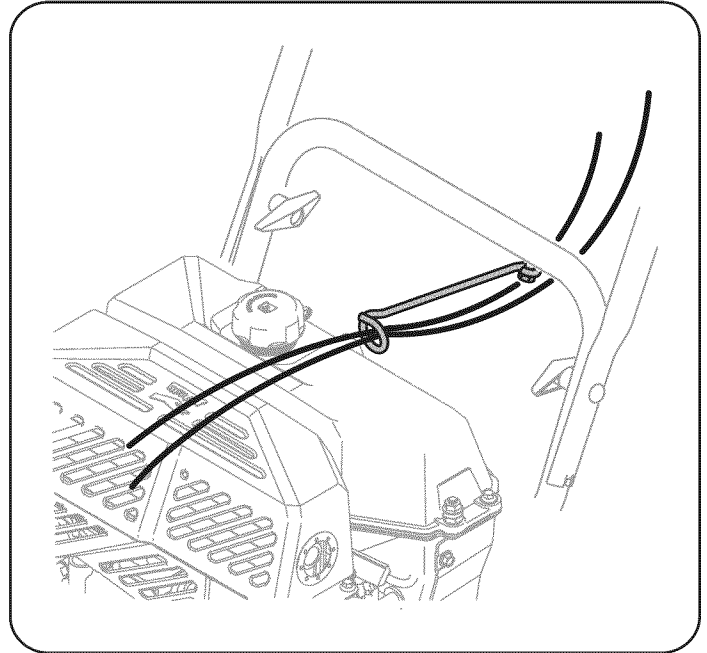

Figure 10
10. Check that all cables are properly routed through the cable guide on the engine. See Figure 10.